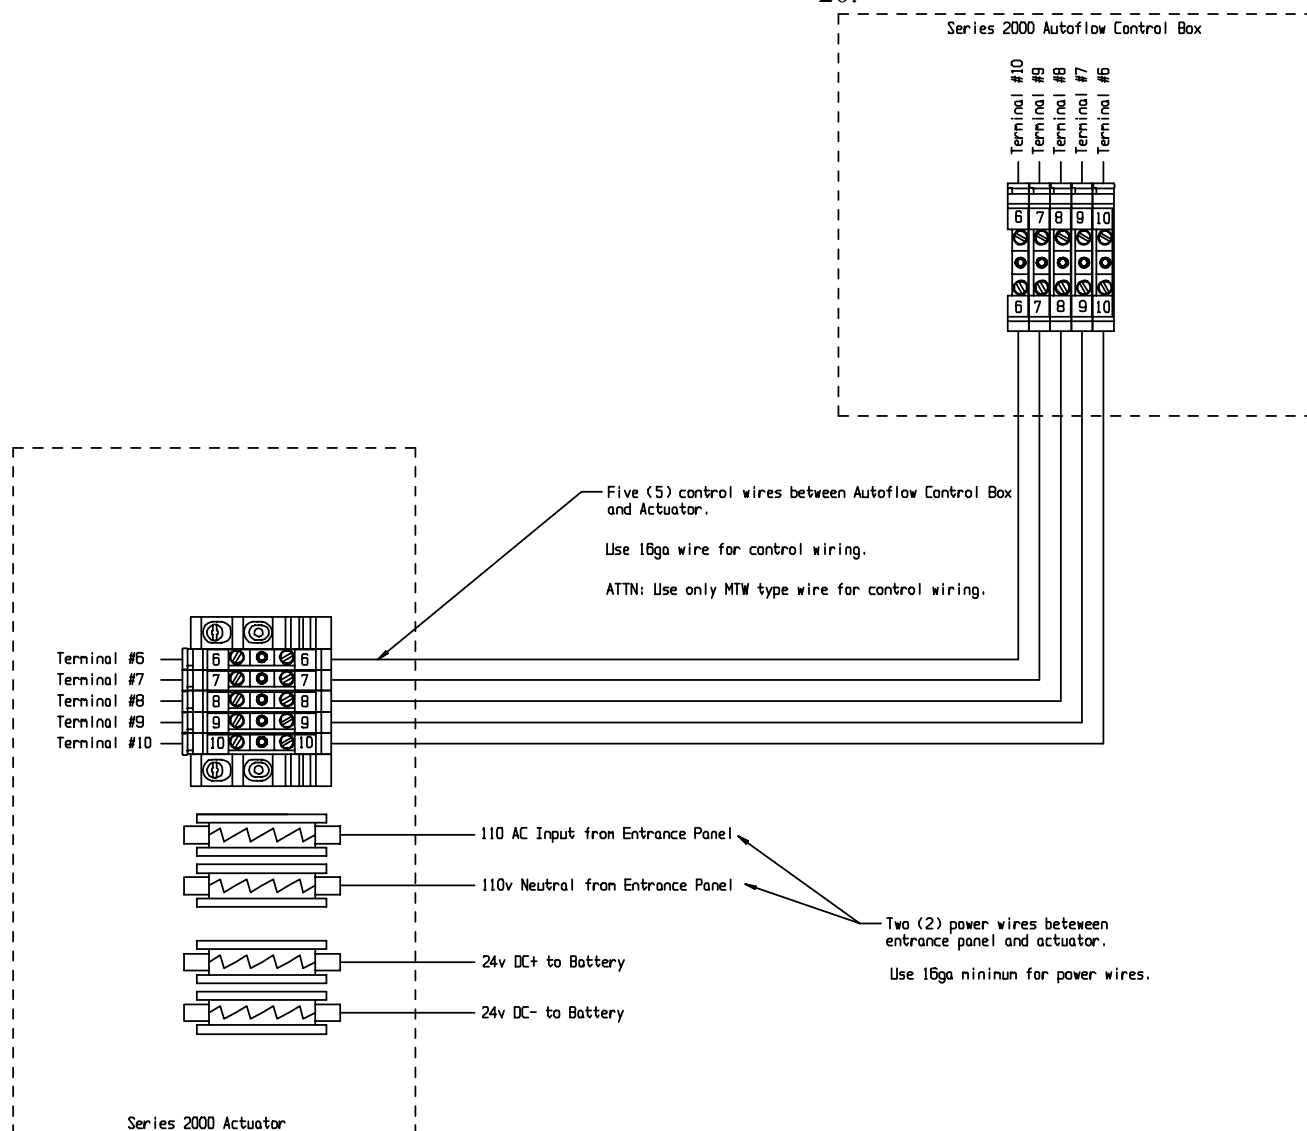

Figure 20
- 1) Run five (5) control wires from the Autoflow Control Box to the Actuator Control Box.
- 2) Run three (3) power wires from the Entrance Panel to the Actuator Control Box.
- 3) Connect the wires as shown in figure 20.